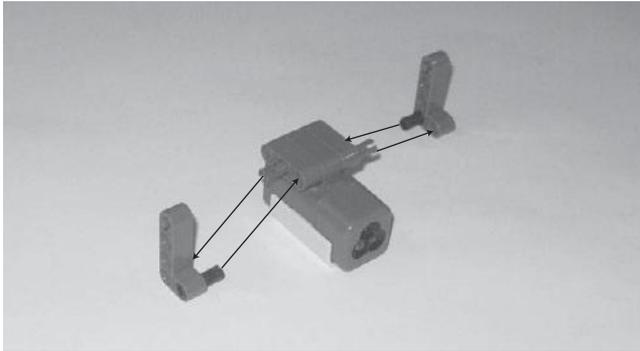

Figure 10.6
Step 3: Take two $2 \times 4M$ perpendicular beams and connect a single connector peg with friction to each. Then connect the $2 \times 4M$ perpendicular beams to the color sensor as shown in Figure 10.6.